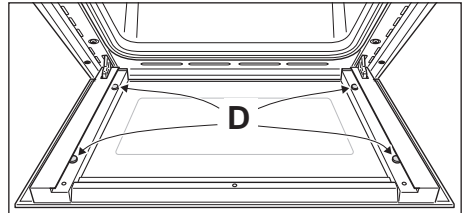

Fig. 9.15a
IMPORTANT: It is advisable, while removing the glass, to keep pressed in position the four rubber pads "D" (fig. 9.15a), by a finger, to avoid breakage or slippage of the rubber pads themselves.
- Check that the four rubber pads are in place ("D" in fig. 9.15a).